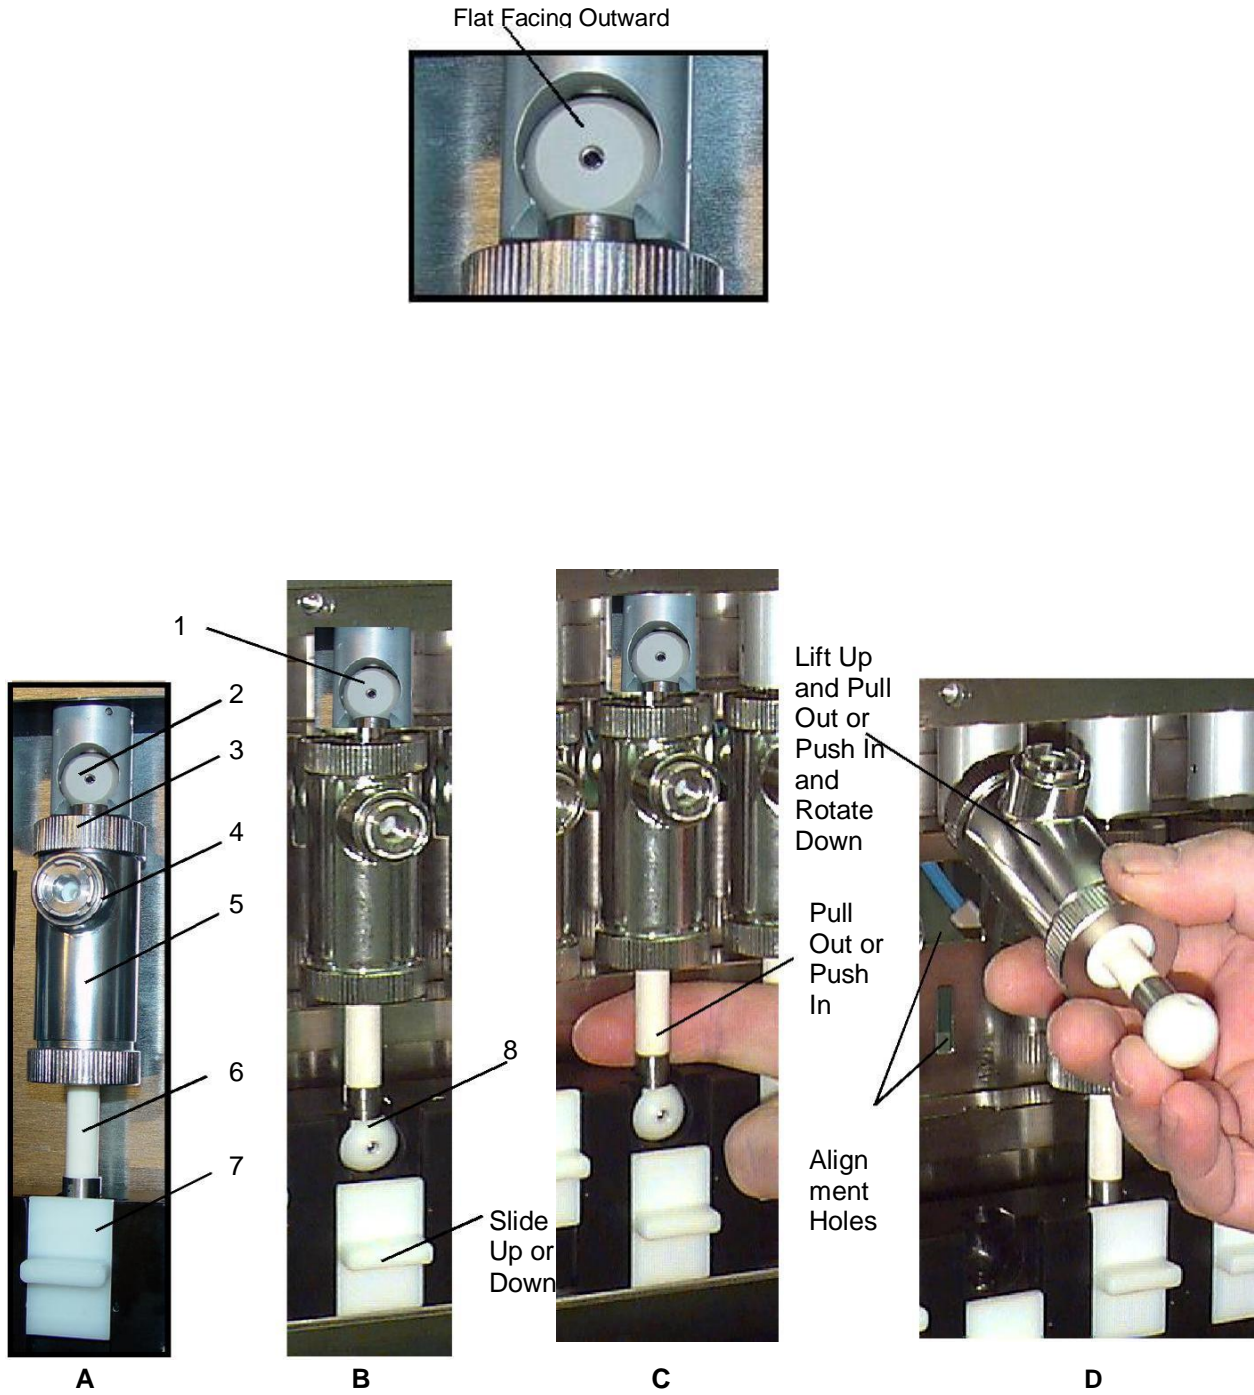

Figure 7.3 LF Multiplex Pump Module Assembly/Disassembly
7.5.2.1 Pump Module (Figure 7.3)
Removal: (Figure 7.3)